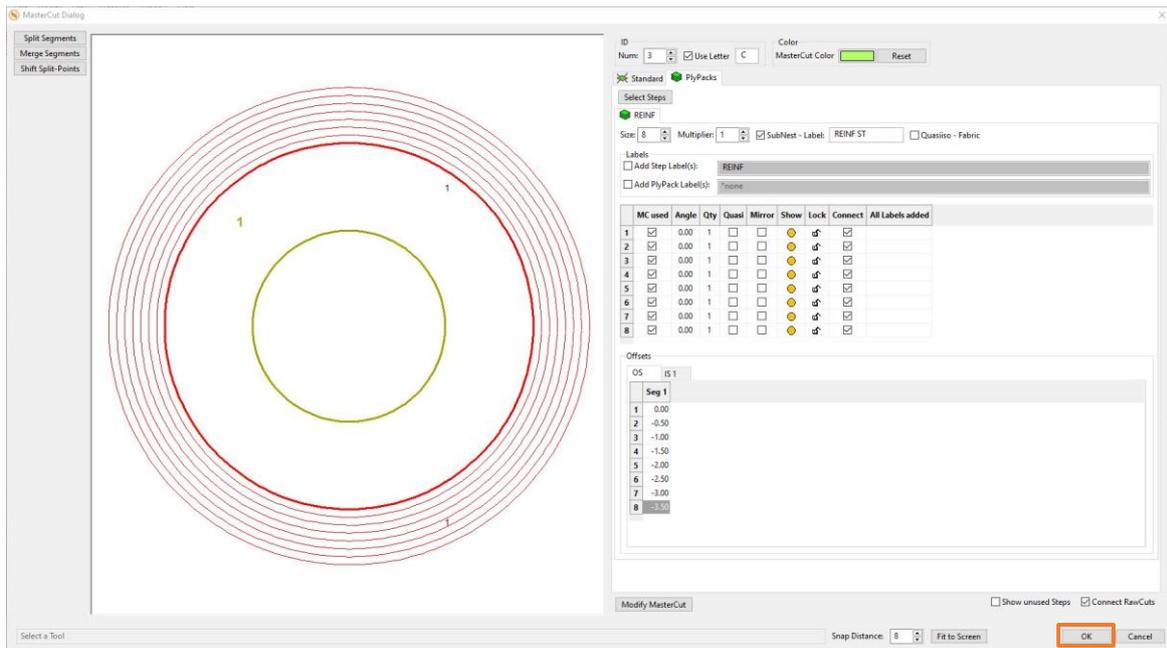

Figure 197
- Figure 197 shows the resulting cuts. With this tool you can very easily generate PlyPacks. Click **OK** to confirm.